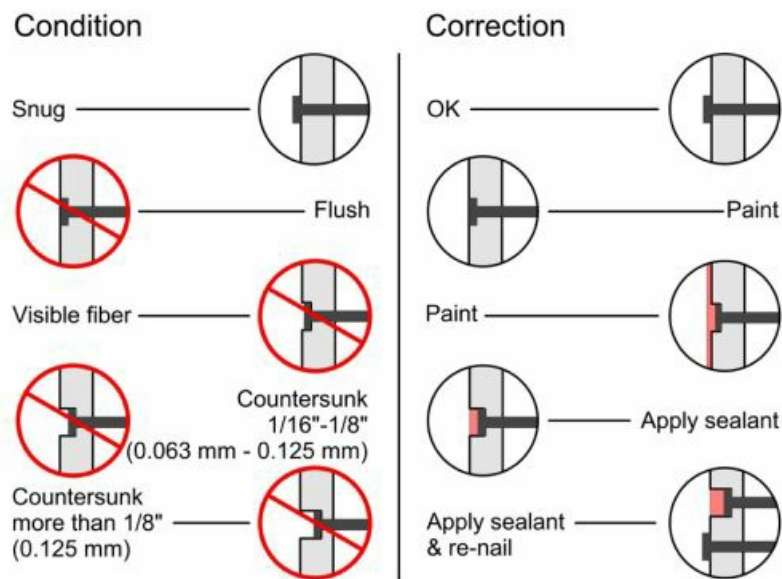

Figure 2
- Caulk exposed nail heads where recommended. (Figure 2)
- Nail head should seat snug to face of cladding, but not be flush to distort the siding surface. (Figure 2)